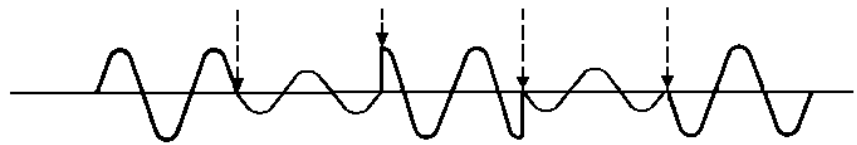

Figure 8: Phase and frequency modulation.
- Bit encoding method - Combination of phase and amplitude modulation (shown in Figure 8)